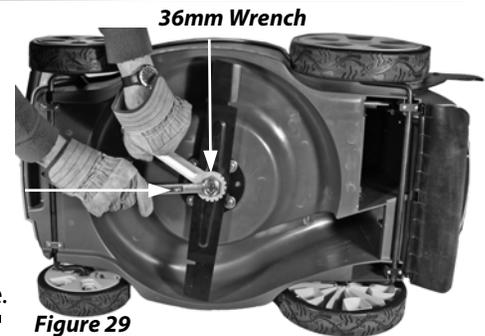
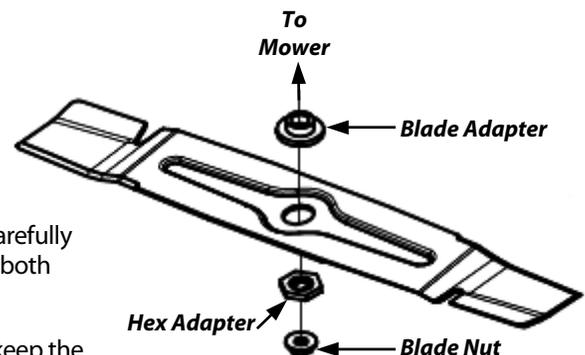

Figure 29
Figure 30
1. Place the 36mm Wrench over the Steel Hex Adapter (the large metal piece that holds the Blade in position) and place the 3/4" Wrench or Socket over the Blade Nut (**Figure 29**).
3. Remove the Blade Nut, Steel Hex Adapter, Blade, and Steel Blade Adapter in that order (**Figure 30**).
4. To install a sharpened Blade or a new Blade, reverse the order of step 3. Be sure to replace all parts exactly as you removed them (**Figure 30**) and make sure to properly seat the Blade.
**NOTE:** Be sure that the stamping on the Blade "THIS SIDE TOWARDS MOWER" is facing the Mower. Also, if replacing the Blade with a new one, use the new Nut supplied. If you assemble the Blade more than ten (10) times, replace the Blade Nut with a new one.
5. Place the 36mm Wrench over the Steel Hex Adapter, then place the 3/4" Wrench (or optional Torque Wrench with a 3/4" Socket) over the Blade Nut (**Figure 29**) and while holding the Hex Adapter in place; tighten the Blade Nut securely (16.6 Ft-Lbs) by turning clockwise. Again, be careful, hold the Hex Adapter firmly in place so that the Blade does not spin and strike your hand.